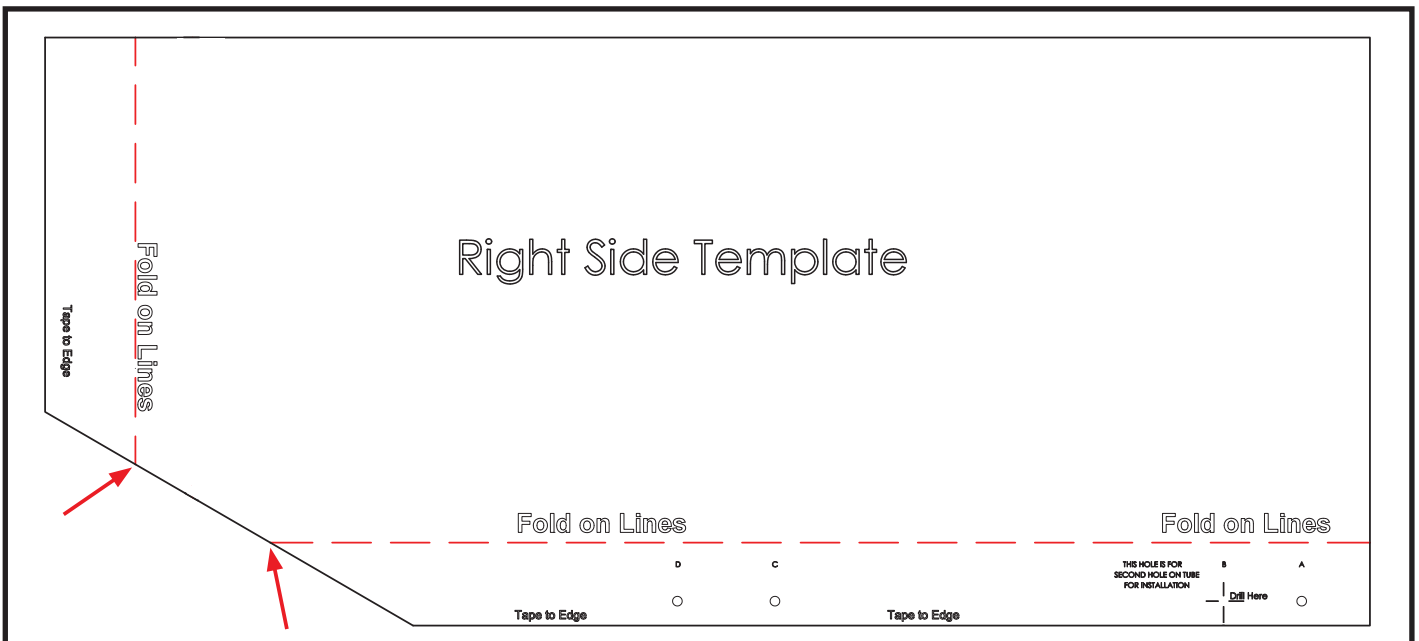

Figure 2.1
2. Unfold the template and place on a flat surface (Figure 2.1).